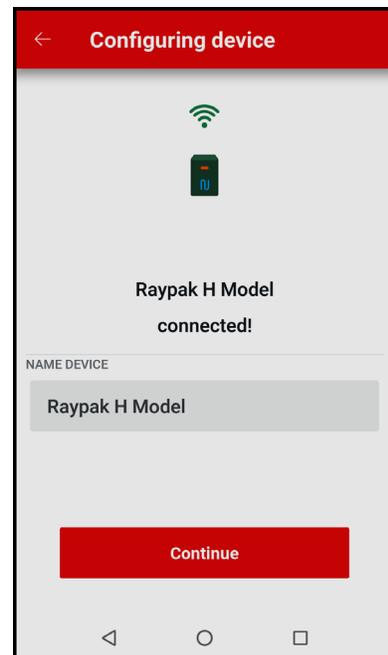

Figure 23. Configuring Device
1. Your device is now connected to Wi-Fi. You can change the name of your device here. See **Figure 23**.